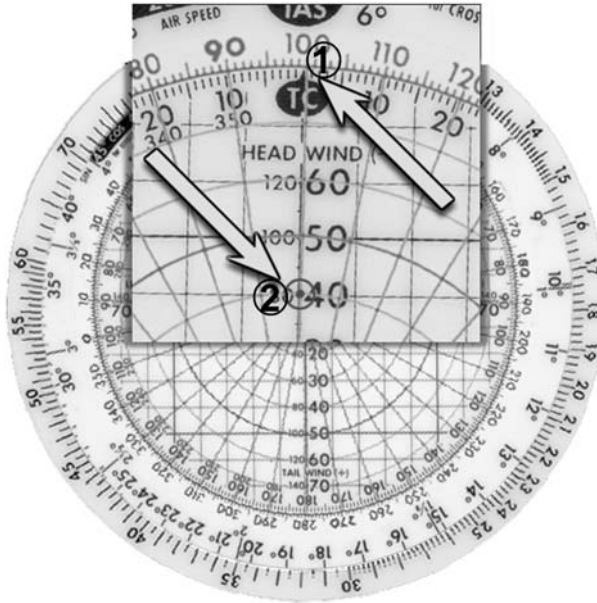

Figure 4.5-12 Preflight Wind Calculation 1
1. Plot the wind by setting the wind direction on the inner wheel on top of the TC arrow (Figure 4.5-12).
2. Choose the appropriate scale (lg. or sm.) and mark the velocity with a dot. Circle the dot to make it more visible (Figure 4.5-12).